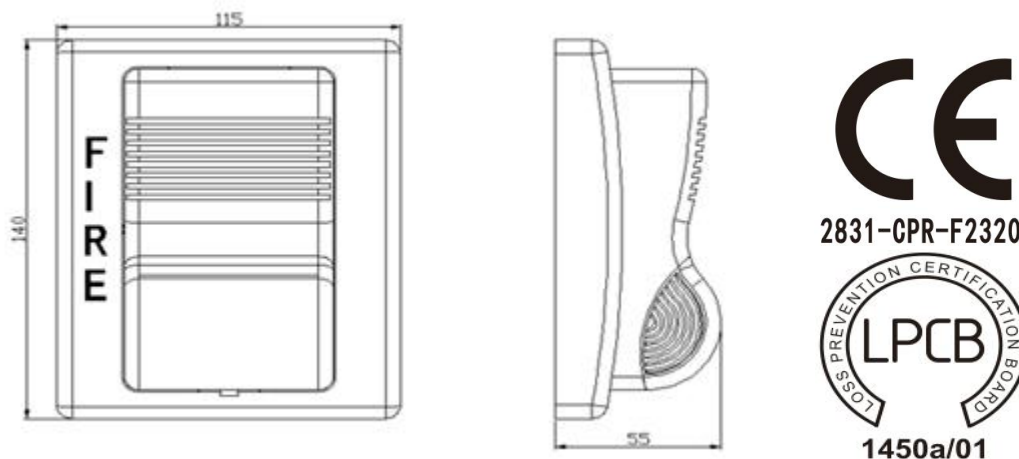

Fig. 1
1. Appearance and size of the sounder strobe is shown in Fig. 1.